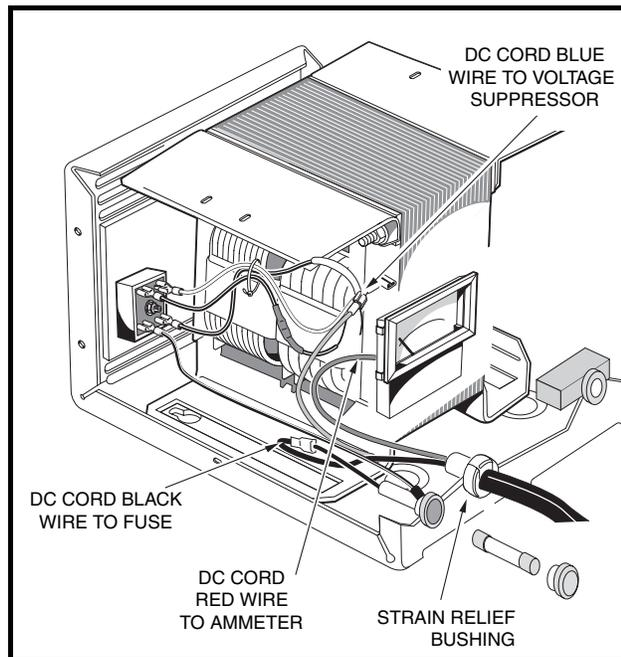

Figure 6-18 DC Cord
3. To check the continuity of the DC cord, disconnect the black wire of the DC cord from the fuse (**Figure 6-18, Page 6-24**).
3. Remove the DC cord black wire from the fuse holder (**Figure 6-18, Page 6-24**).
2. Attach the red wire of the new DC cord to the ammeter (**Figure 6-18, Page 6-24**).